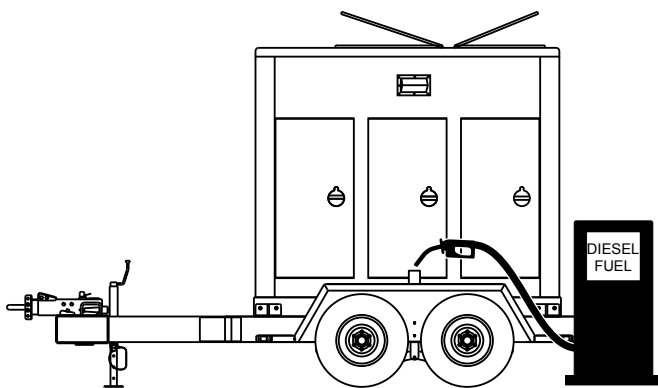

Figure 13. Fueling the Generator
2. Remove fuel cap and fill tank (Figure 13).